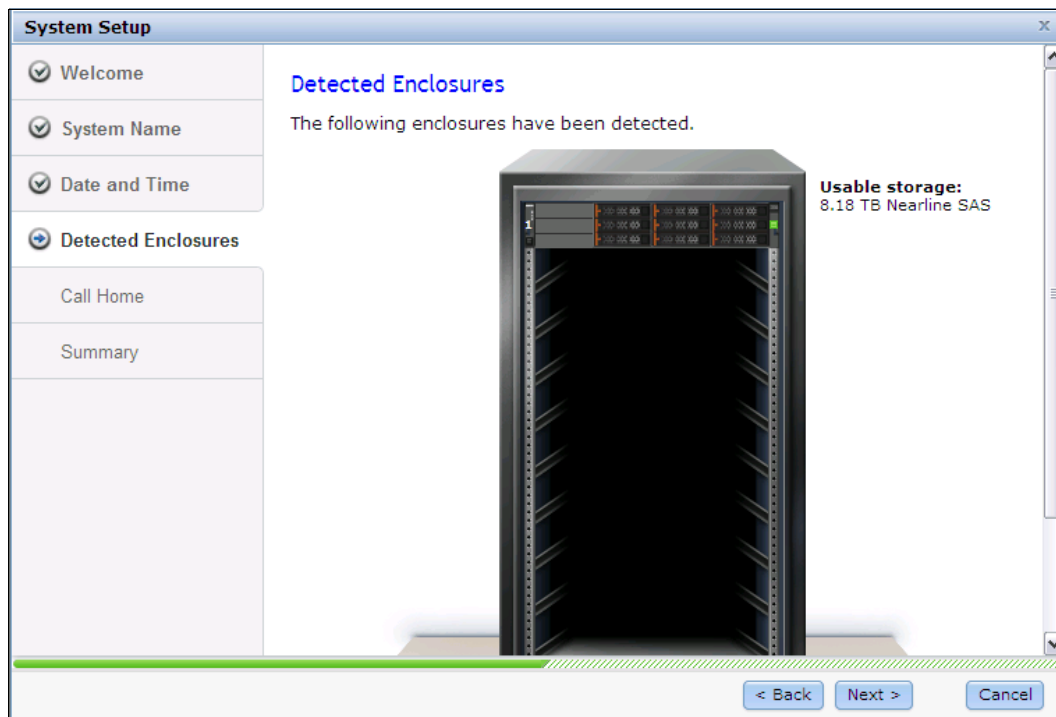

Figure 2-17 Setup wizard - Verify the detected hardware
4. The configuration wizard continues with the hardware configuration. Verify the hardware (Figure 2-17).